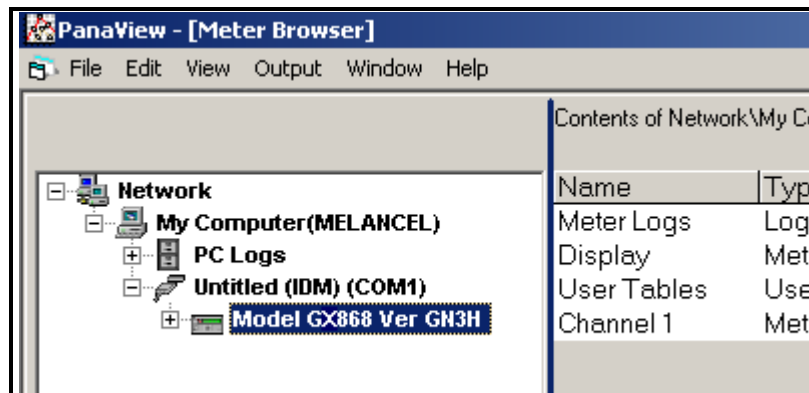

Figure 23: Updated Network Tree
If the initialization is successful, the Meter Browser shows a listing similar to Figure 23 below.
1. Highlight the meter (as shown in Figure 23 on page 96).